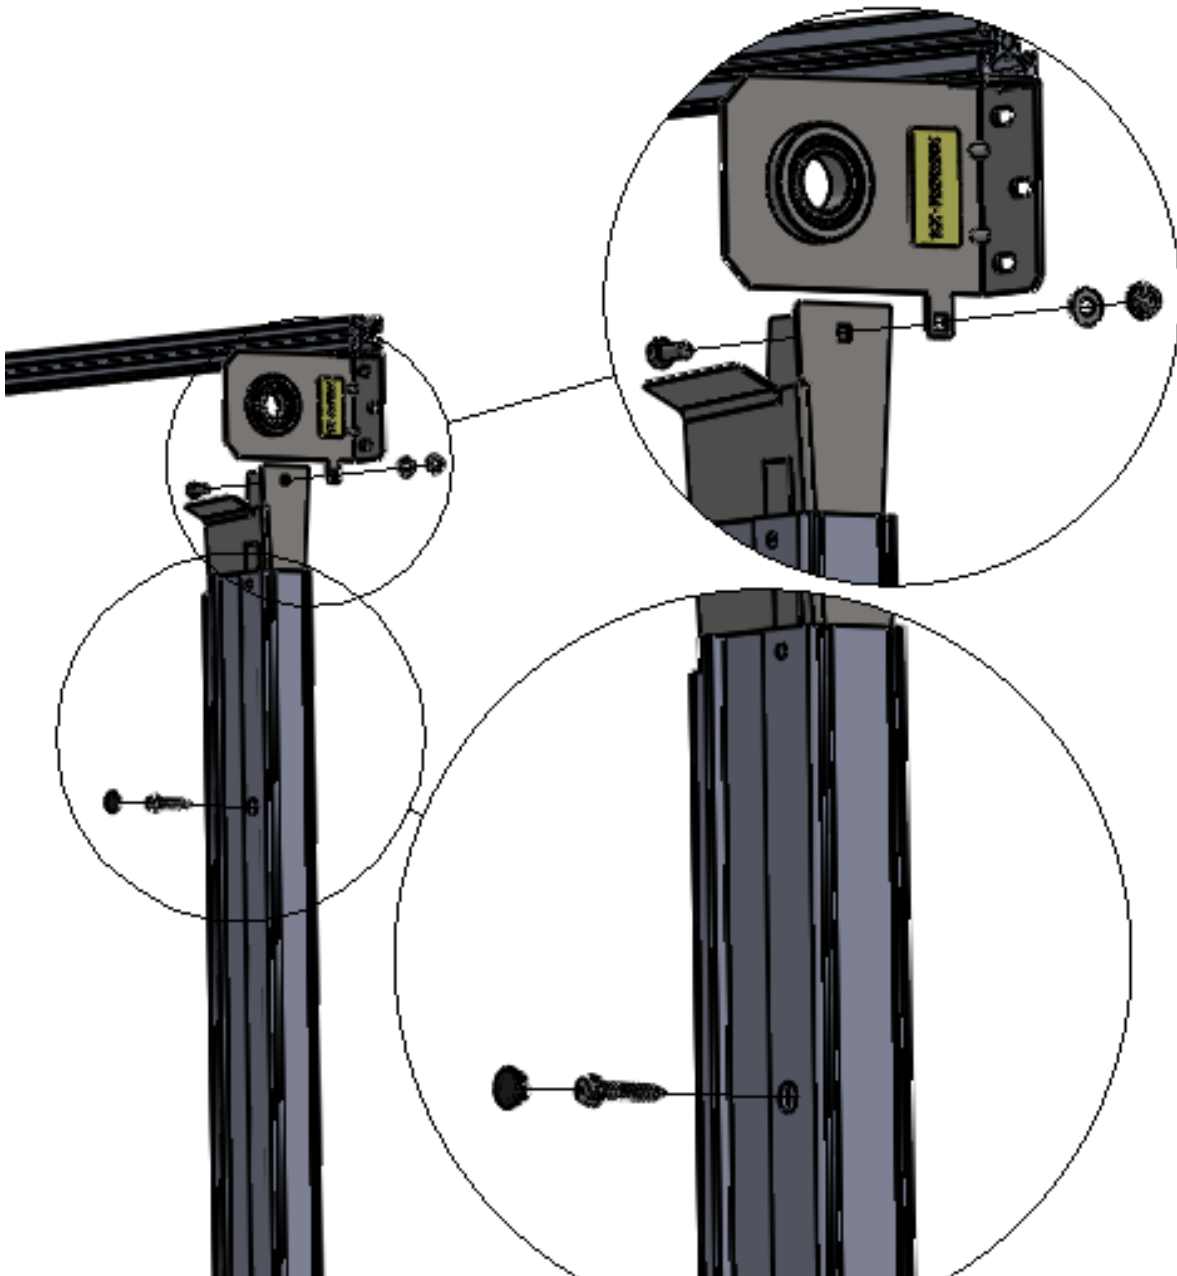

Figure 7 MOUNT TRACK TO HEADER & MOUNT TRACK TO WALL
1. Starting with either the left or right side, loosely “hang” the Track Assembly by its Transition Bracket Mount hardware. Note that the transition Bracket mounts to the inside of the tab of the Header Assembly Mounting Bracket. It is important to insert the carriage bolt from the inside of the transition and the washer and hex nut on the outside of the assembly as shown. (Figure 7 MOUNT TRACK TO HEADER & MOUNT TRACK TO WALL)
3. Move the Track Assembly off to the side and predrill its mounting holes. Move it back into place and secure it to the wall with appropriate hardware. Before fully tightening hardware, be sure each track is plumb/vertical. Replace the black plastic plugs in the mounting access holes on the Track front. (Figure 7 MOUNT TRACK TO HEADER & MOUNT TRACK TO WALL)